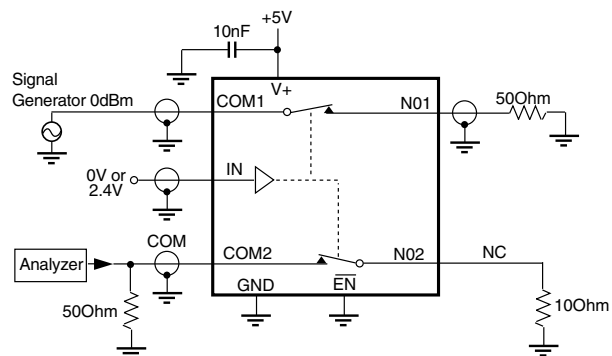

Figure 4. Crosstalk
- Between any two switches. See figure 4.-